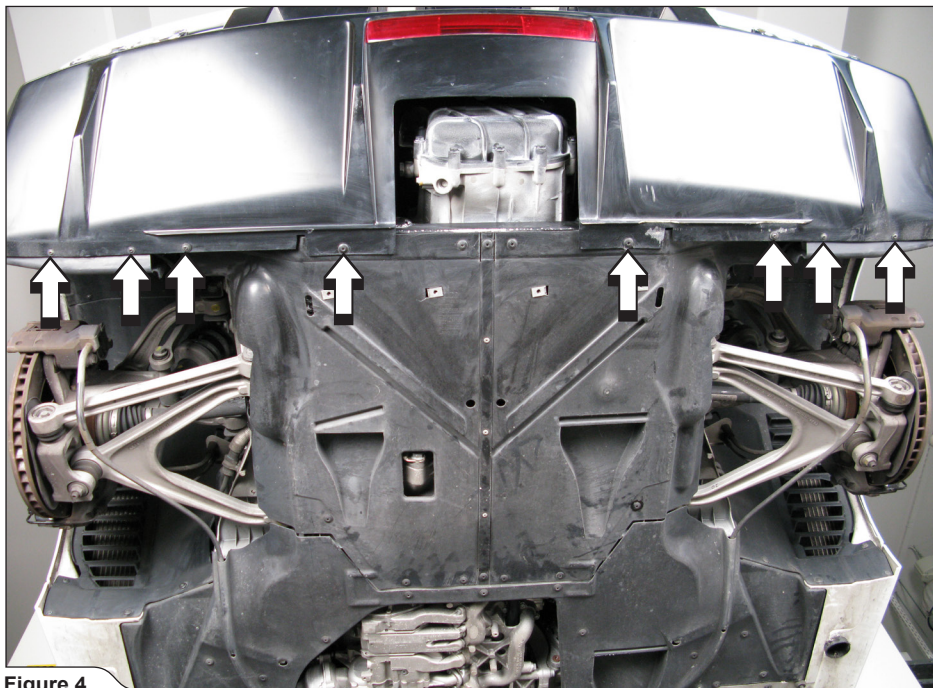

Figure 4
2. Unscrew the marked bolts and remove the rear sections of wheel arch panels off the vehicle (Figure 4).